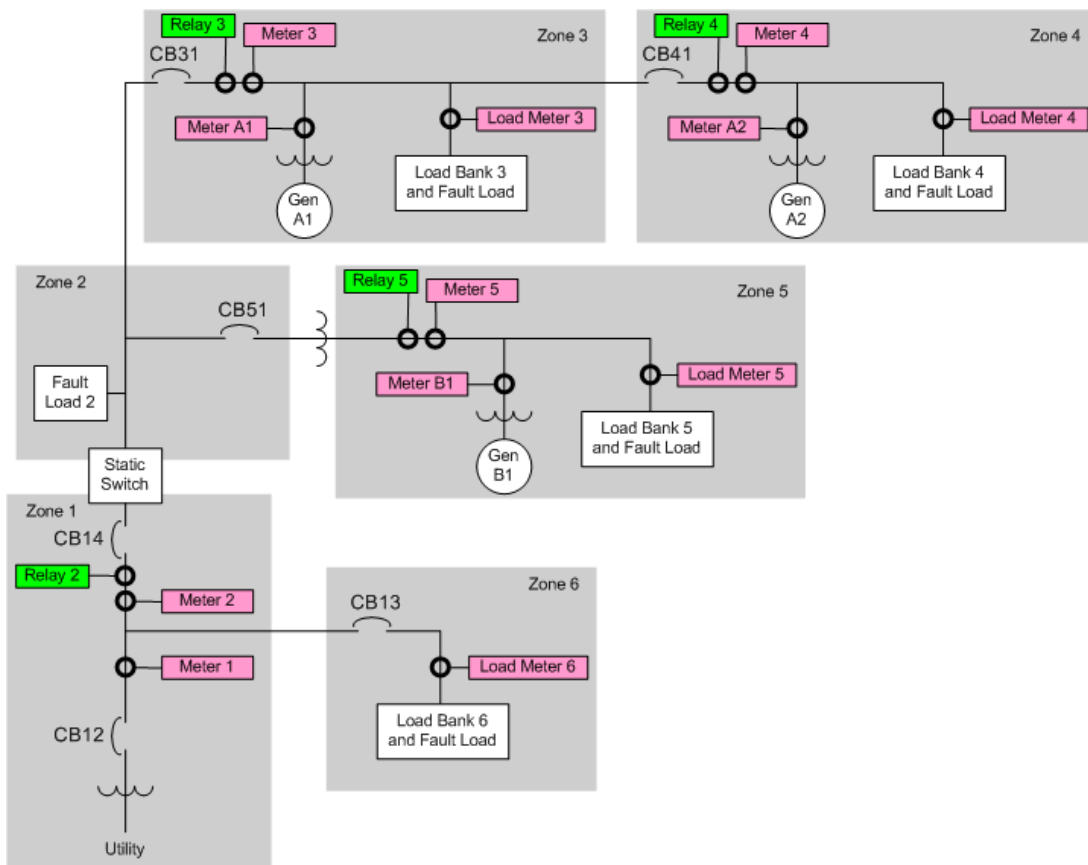

Figure 1 - Test Bed 1-Line with Meter and Relay Locations
- 5.6.2 Twelve PML Ion 7650 meters are distributed within the Microgrid Test Bed with locations shown in Figure 1. These meters are prime data collection elements in the system for DAS and EMS. They monitor electrical system conditions, plus acquire phase current and voltage waveforms; and